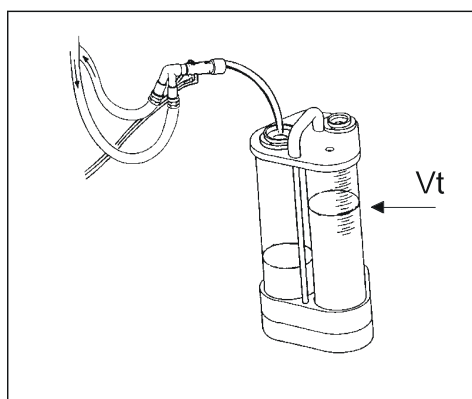

FIGURE 5-21
9. Read the V_t at the tester's highest water level and compare to the reading with the INSP V_t reading on the host monitor. If unit does not meet accuracy specification ($\pm 6\%$ of V_t), discontinue use and call for service (see FIGURE 5-21).